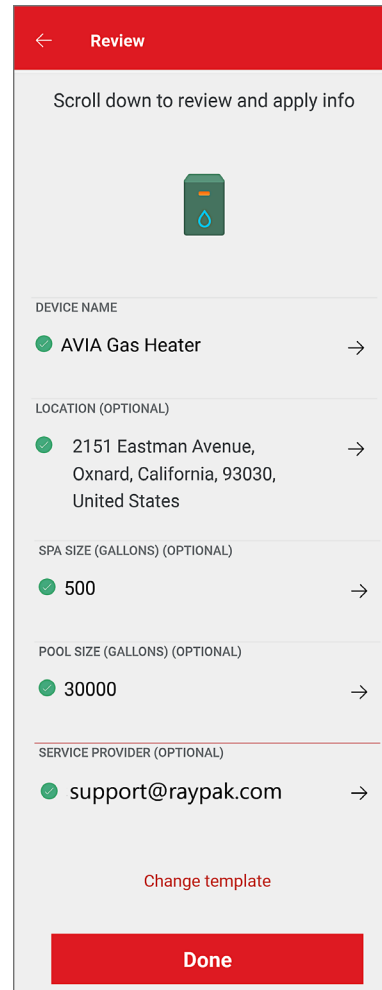

Figure 105. Device Setup Review
3. During device configuration, basic reference information about the unit will be requested, including service provider, site location, Pool and Spa size. See **Figure 105**.